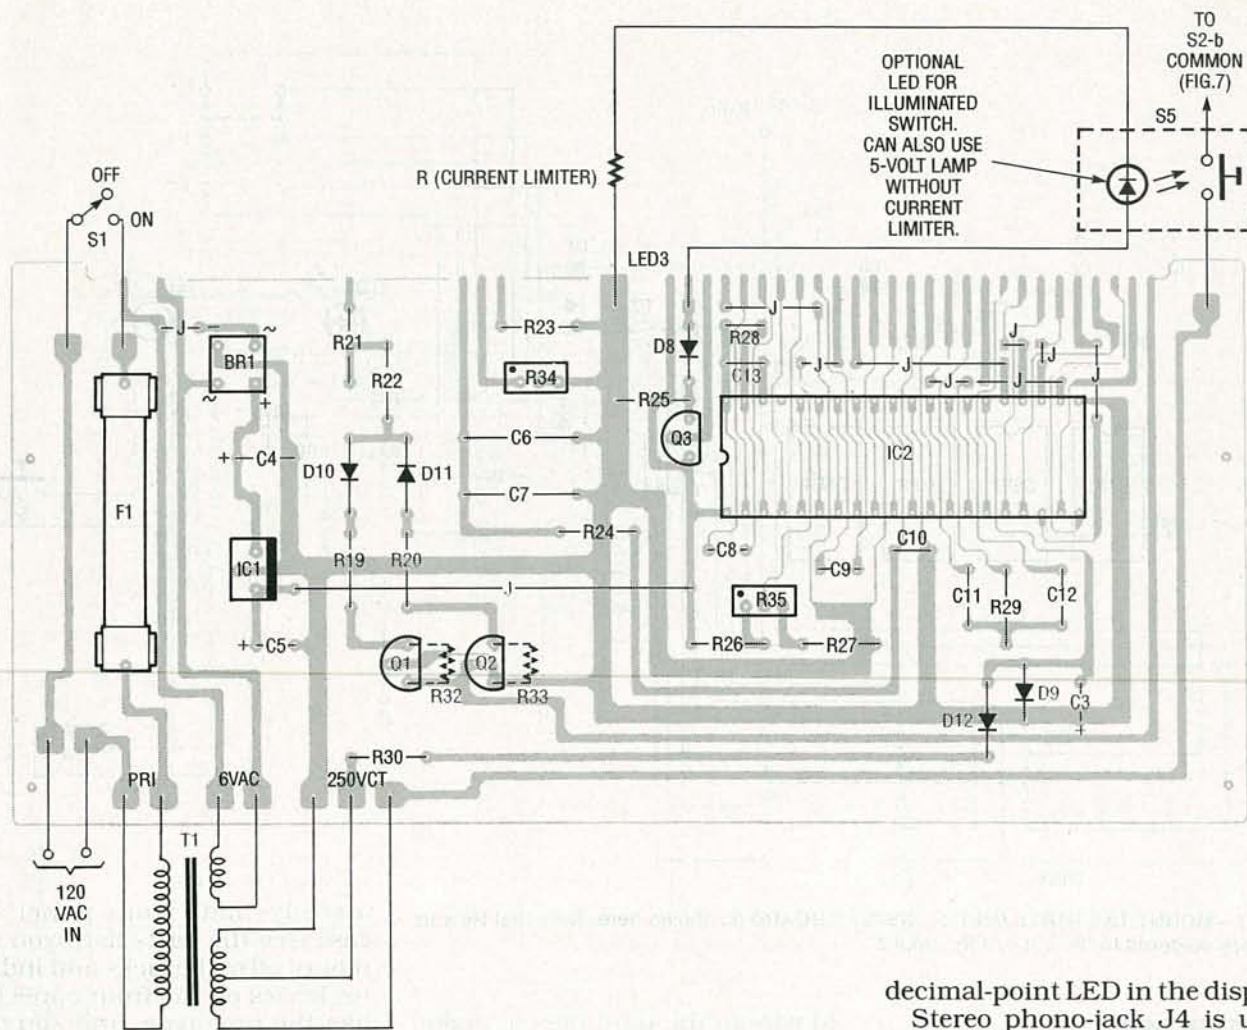

FIG. 6—ALL COMPONENTS ON THE MAIN BOARD are mounted on the component side except for R32 and R33 which must be tack-soldered to the solder side of the board.
- Two signal labels, LO_{IN} and V_{TUNE}, should be reversed in IC23 of the signal-processing block diagram (Fig. 6).
Almost all components, except the power transformer and switches S1 and S5, are mounted on the PC boards. Follow the parts layouts for the main and display boards, Figs. 6 and 7, respectively. Solder all jumpers on both boards first, followed by the fuse, resistors, trimmers, diodes, capacitors, transistors, regulator IC1, and sockets for the 7-segment displays and IC2, in that order; do not put IC2 in its socket just yet. Prepare switches S2–S4 by soldering 1-inch lengths of sol-